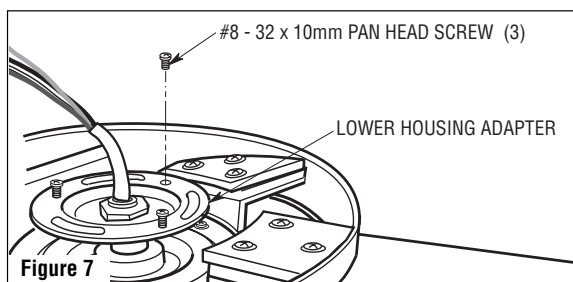

Figure 7
9. Remove one #8 - 32 x 10mm pan head screw from the lower housing adapter (reserve for later use). Loosen the other two screws to assemble the lower housing to the lower housing adapter (Figure 7).